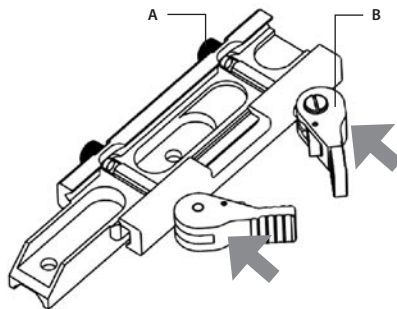

FIGURE 3-7. CLAMPING DEVICE ADJUSTMENT
2. With the clamping device unlocked (as shown in Figure 3-7), push the cam (B) towards the arrow, which will cause the nut (A) to slide out of its hollow.
3. To tighten/ loosen the clamping device, push down on the cam (B) and turn the nut (A) CW/ CCW respectively, in one-two increments (see note below). Much like when the cam (B) is released, backward-moving springs will cause the nut (A) to slide back into its hollow.